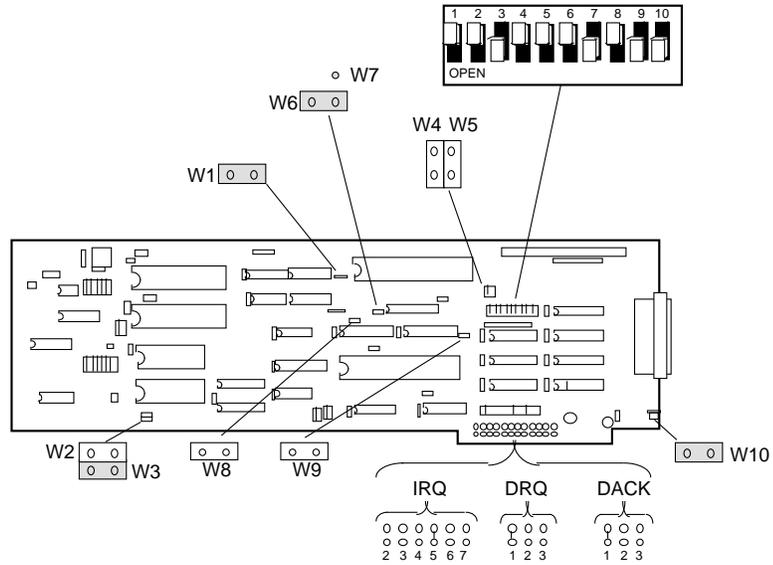

Figure A-32. Tape Controller Jumper and Switch Locations and Settings
1. Set the three jumpers at the bottom of the tape controller to IRQ5, DRQ1, and DACK1 as shown in Figure A-32.